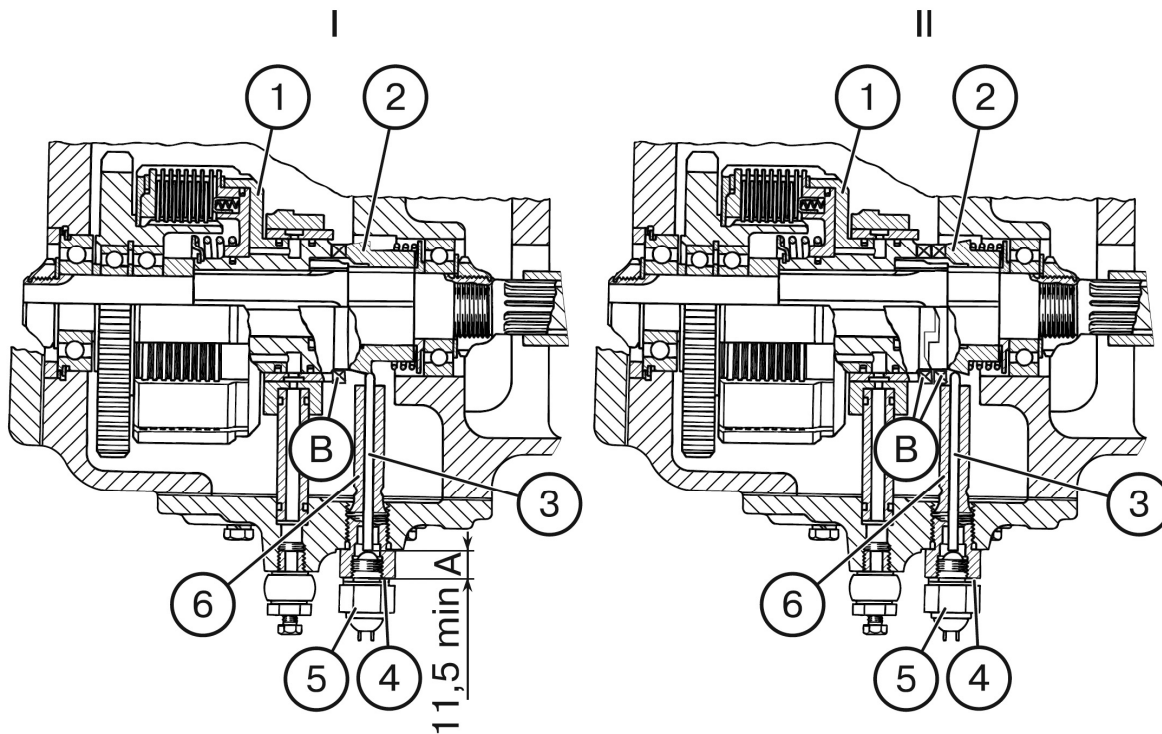

Fig. H-6. Adjusting FDA drive switch
1. Engage cams (B) of half-clutch (2) with drum cams (1), so that pusher (3) was extended from guide (6) to maximum (see Fig. H-6 (I)).
2. Put initial stack of adjusting spacers (4) (5...6 pieces) under switch end face (5).
3. Removing spacers one by one, provide closing of switch contacts (5).
4..Disengage cams (B) of half-coupling (2) from drum clams (1). In this case pusher (3) should be sunk to maximum, and switch contacts open (see fig. H-6 (II)). Switch (5) is adjusted correctly if in position (I) its contacts are closed, and in position (II) are open. To make checking
Important! In position (I) (Fig. H-6), dimension "A" from pusher end face (3) to switch end face (5) should be at least 11.5 mm. Failure to observe this requirement may result in switch damage.